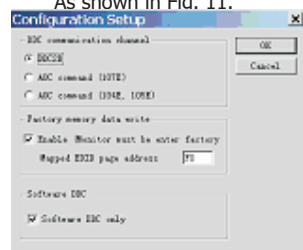

Fig. 11
1. Click  icon as shown in Fig. 10 from the tool bar to bring up the Channels "Configuration Setup" windows as shown in Fig. 11.
As shown in Fig. 11.